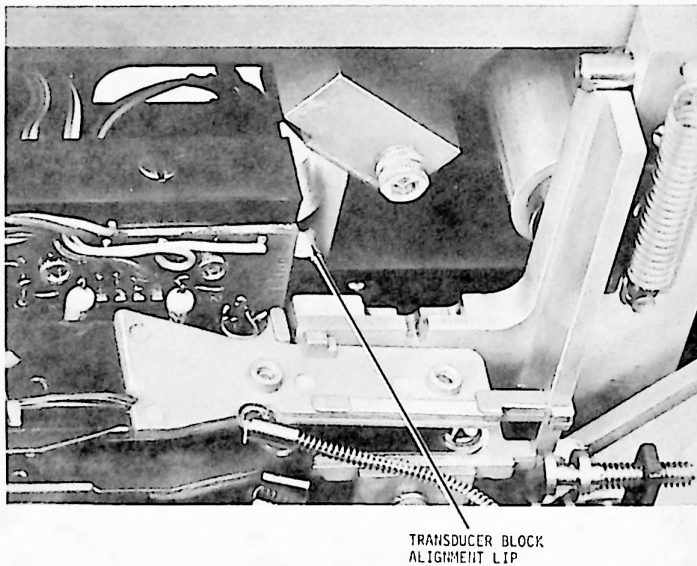

Figure 3-27. Optical Positioning Transducer Removal and Replacement
5. Slide transducer block out towards front of drive (figure 3-27).